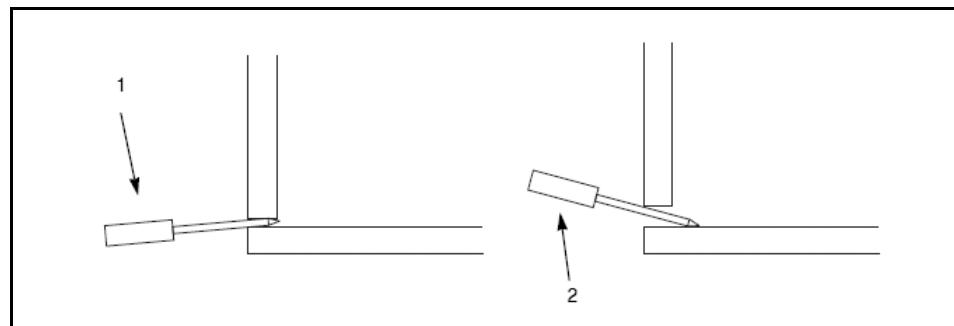

Fig. 41 Opening of the mechanical hood
4. Turn the PHOENIX L300i so that it is orientated in the same way as shown in Fig. 41.
5. Use two flat blade screw drivers and insert these into the openings (Fig. 41) and lever the cover for the mechanical section out at the bottom.